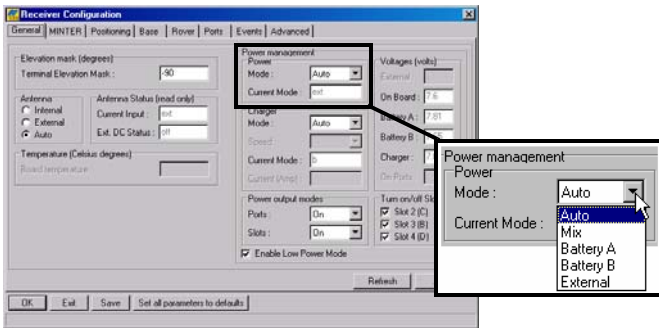

Figure 3-2. Select Power Mode
3. Select the **Power Mode** drop-down list to set the desired power source (Figure 3-2). *Current Mode* displays the current power source.